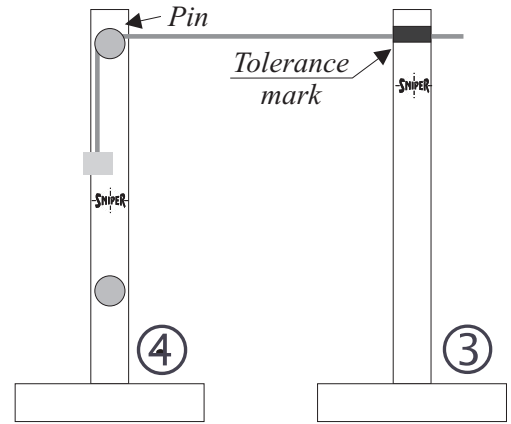
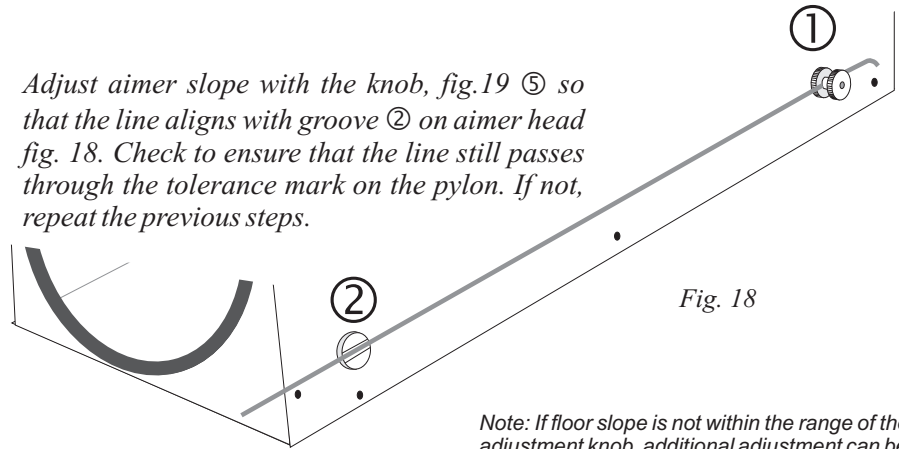
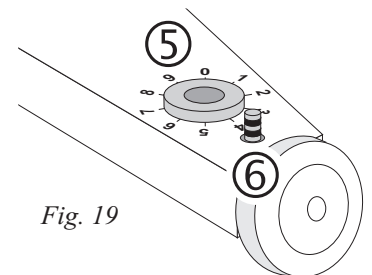

Fig. 17
Fig. 18
Fig. 19
Position aimer in front of, and next to, the vehicle. Position the pylon ④ (with the pins attached) next to rear wheel. Position the other pylon ③ (with tolerance marks) next to front wheel. Attach the line to the mounting point on aimer body as shown in fig. 18. The line should run over the top of the stud and be held by in place by the nut. Pass the opposite end of the line over the pin on pylon ④ as shown in fig. 17, raise or lower aimer body so that the line passes within the tolerance mark at pylon, fig 17.
Adjust aimer slope with the knob, fig.19 ⑤ so that the line aligns with groove ② on aimer head fig. 18. Check to ensure that the line still passes through the tolerance mark on the pylon. If not, repeat the previous steps.
Near the slope compensation knob ⑤, there is a register ⑥ consisting of a small cylinder that can be used to count the turns of the knob ⑤. This register sinks or raises with each turn of the knob fig. 19.